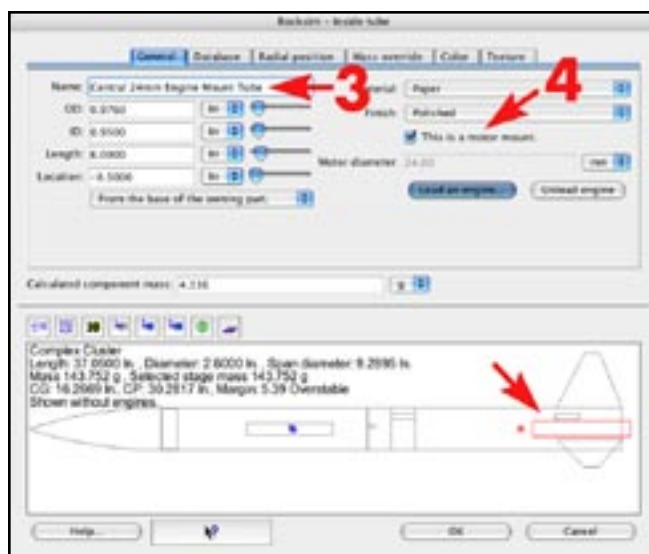

Figure 4
2. Not we'll add a motor mount tube, just like we'd do for any single-engine rocket. Click on the INSIDE TUBE button, which will then bring up the component editor screen for body tubes. You can select from the database, or create your own tube. In Figure 4, I've selected the size tube, and changed its length.